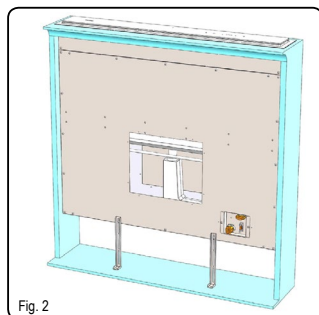

Fig. 2
- Fix the downdraft inside the cabinet, using the special fixing brackets supplied with the product (Fig. 2). Insert the brackets in the lower side of the downdraft (Fig. 2), in such a way that there is a 2mm distance between the lower side of bracket and the bottom of the cabinet (Fig. 2).